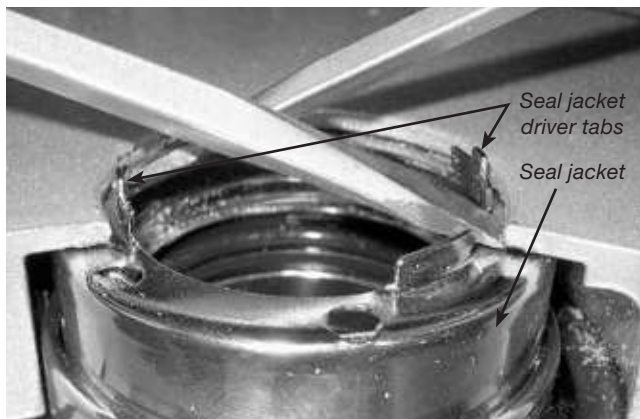

Figure 7
- b. Remove the mechanical seal. Using two screwdrivers, gently push the backside of the seal jacket to remove the seal from the head (see Figure 7). Be careful when using the screwdrivers on the seal faces. The seal faces can be damaged. Detach and dispose of the mechanical seal O-rings.
Apply a small amount of light oil in the head recess. Press the mechanical seal assembly into the recess of the head so the seal jacket drive tabs face the rotor. The pin in the stationary seat must be between the lugs in the back of the head recess (see Figure 7).